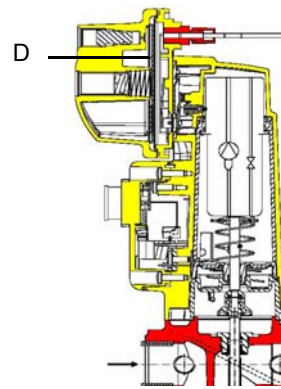

Fig. 10
**Caution:** the SKP2 diaphragm D must be vertical (see Fig. 10).